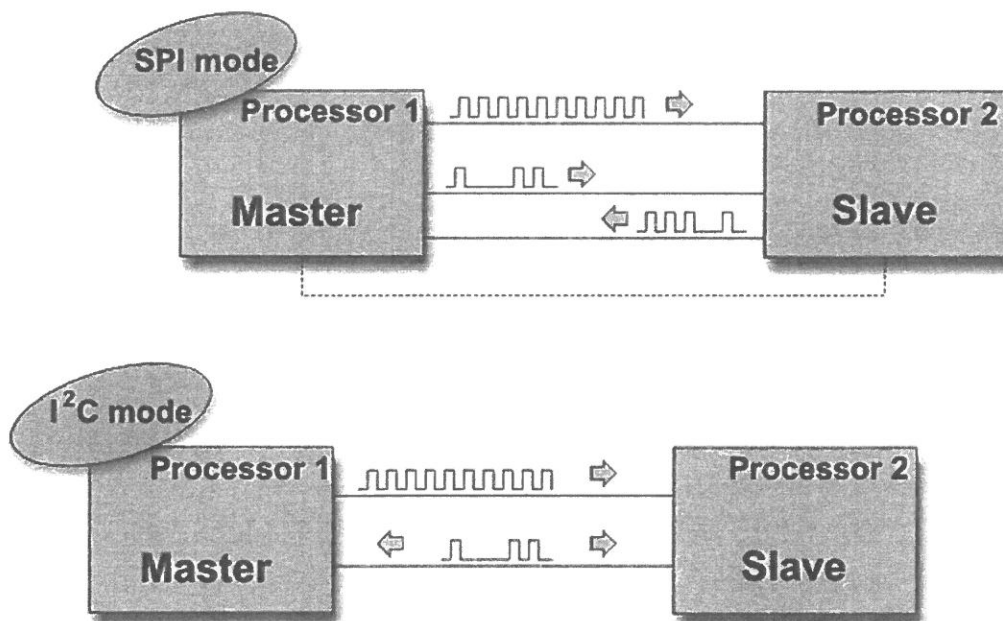

Figure 3(c)
- (c) Describe and compare the serial communications used in PIC microcontroller shown in Figure 3(c). (12 marks)